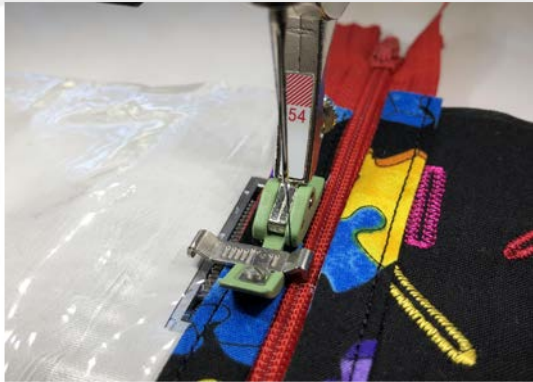

Fig 8
- Move the Sliding Guide on the foot into position so that it runs along the centre of the zipper teeth, and stitch both sides into place. See Fig 8.